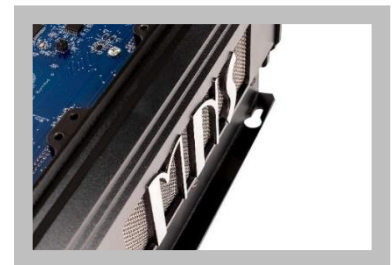

Figure 1
4. Align mounting flange keyhole of Barcelona (**Figure 1**) to the lag bolts, slide Barcelona down.